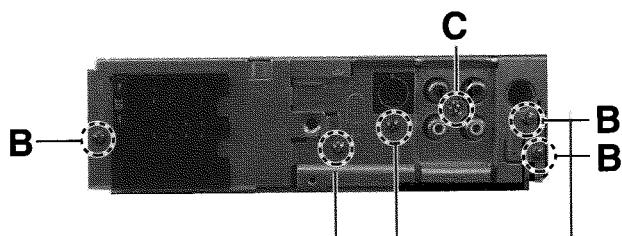

Fig. 6
■ Removing the rear panel (See Fig.6)
■ Removing the sub chassis (See Fig.6)